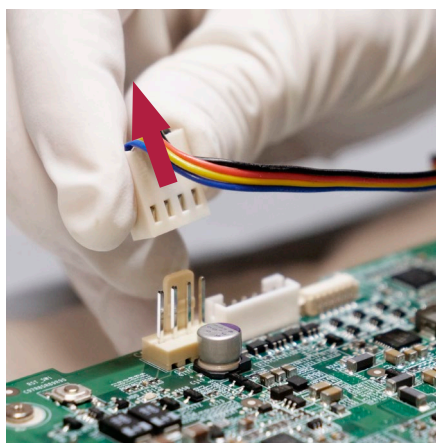

Figure 23 Disconnect the fan cable
Identify the location of the fan connector on the main board (see Figure 12), and disconnect the fan connector (see Figure 23) .
- g) **Connect the fan cable (see Figure 12 and Figure 23)**